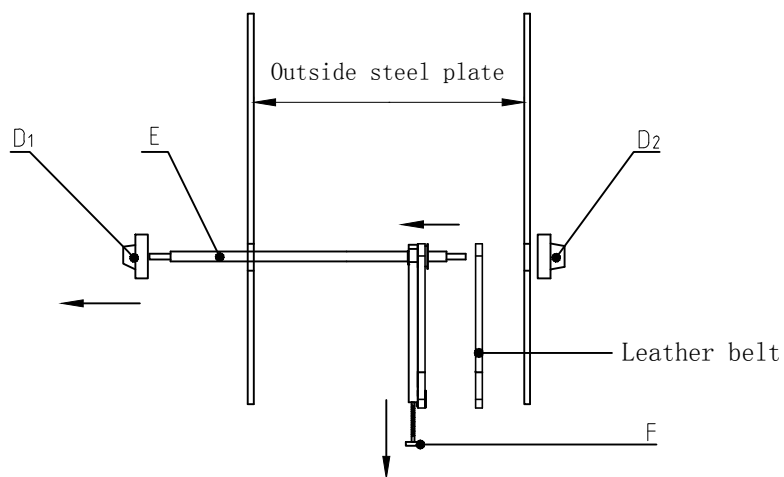

Fig 1-2
- ② Loosen bearing D1, fetch out the shaft level E, loosen the tightening screw F. Take the belt out and replace it, see Fig.1-2. Then reset the position of each part as original. And fasten them.